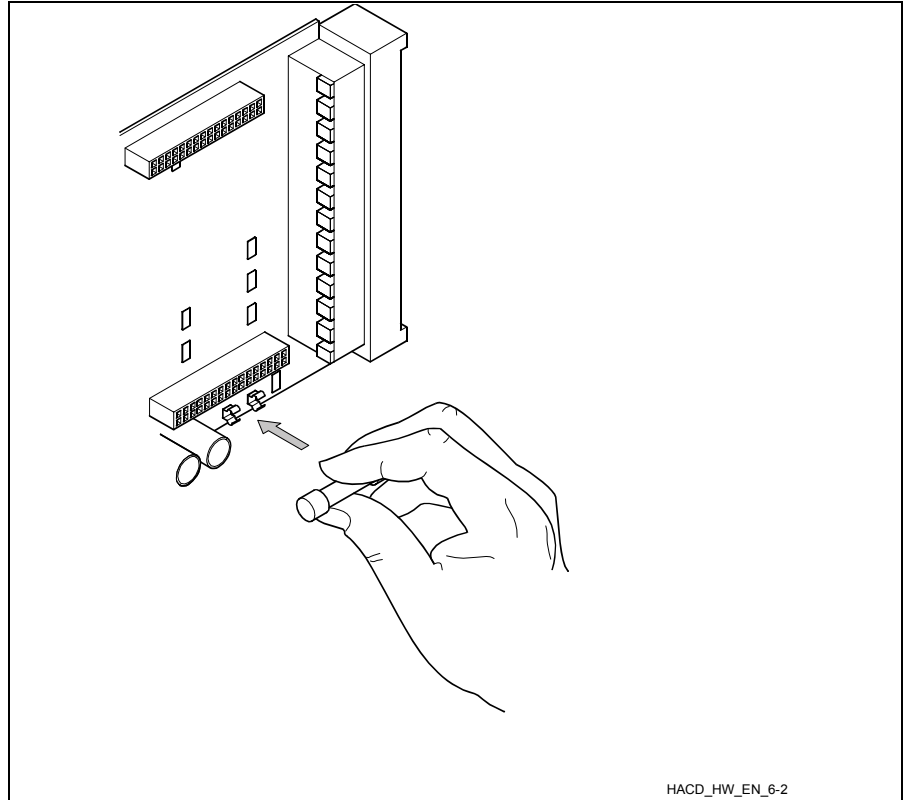

Fig. 9 Fuse on the HACD-DPC Controller Card
- ▶ Gently remove the fuse from the fuse holder (see Fig. 9).